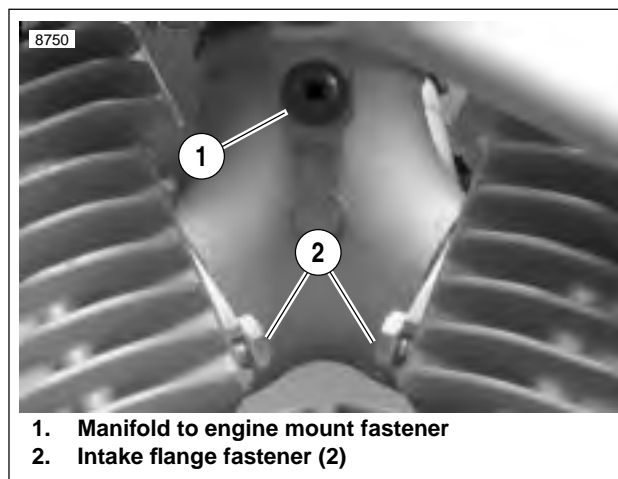
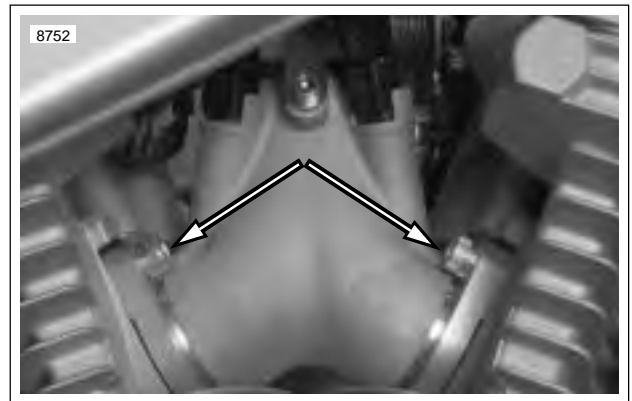

Figure 4-102. Intake Manifold (primary side)
Figure 4-103. Intake Manifold fasteners (gearcase cover side)
- a. See Figure 4-102. On primary cover side, loosen but do not remove the two front and rear intake flange fasteners (2).
- b. Remove fastener (1) holding manifold to engine mount.
- c. See Figure 4-103. On gearcase cover side, remove both intake flange fasteners from cylinder heads.
- a. See Figure 4-102. Slide the assembly toward installed position. Manifold should slide over fasteners (2) on primary cover side of engine.